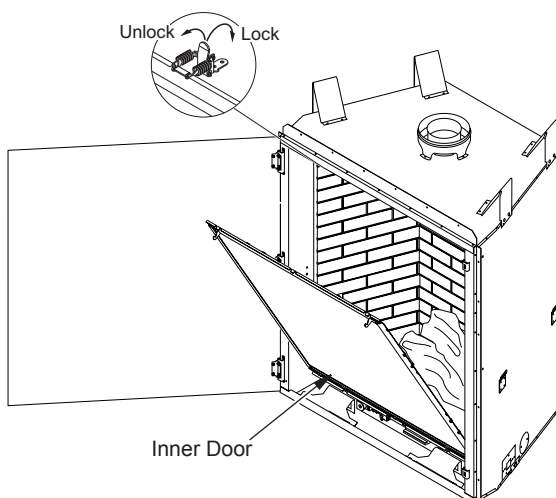

Figure 28 - Removing/Installing Inner Door
4. While holding inner door, release 6 latches, 3 top and 3 bottom (see Figure 28, page 20).
5. Slowly tilt open glass at a 30° angle and lift up to release glass from bottom retainer (see Figure 28, page 20).